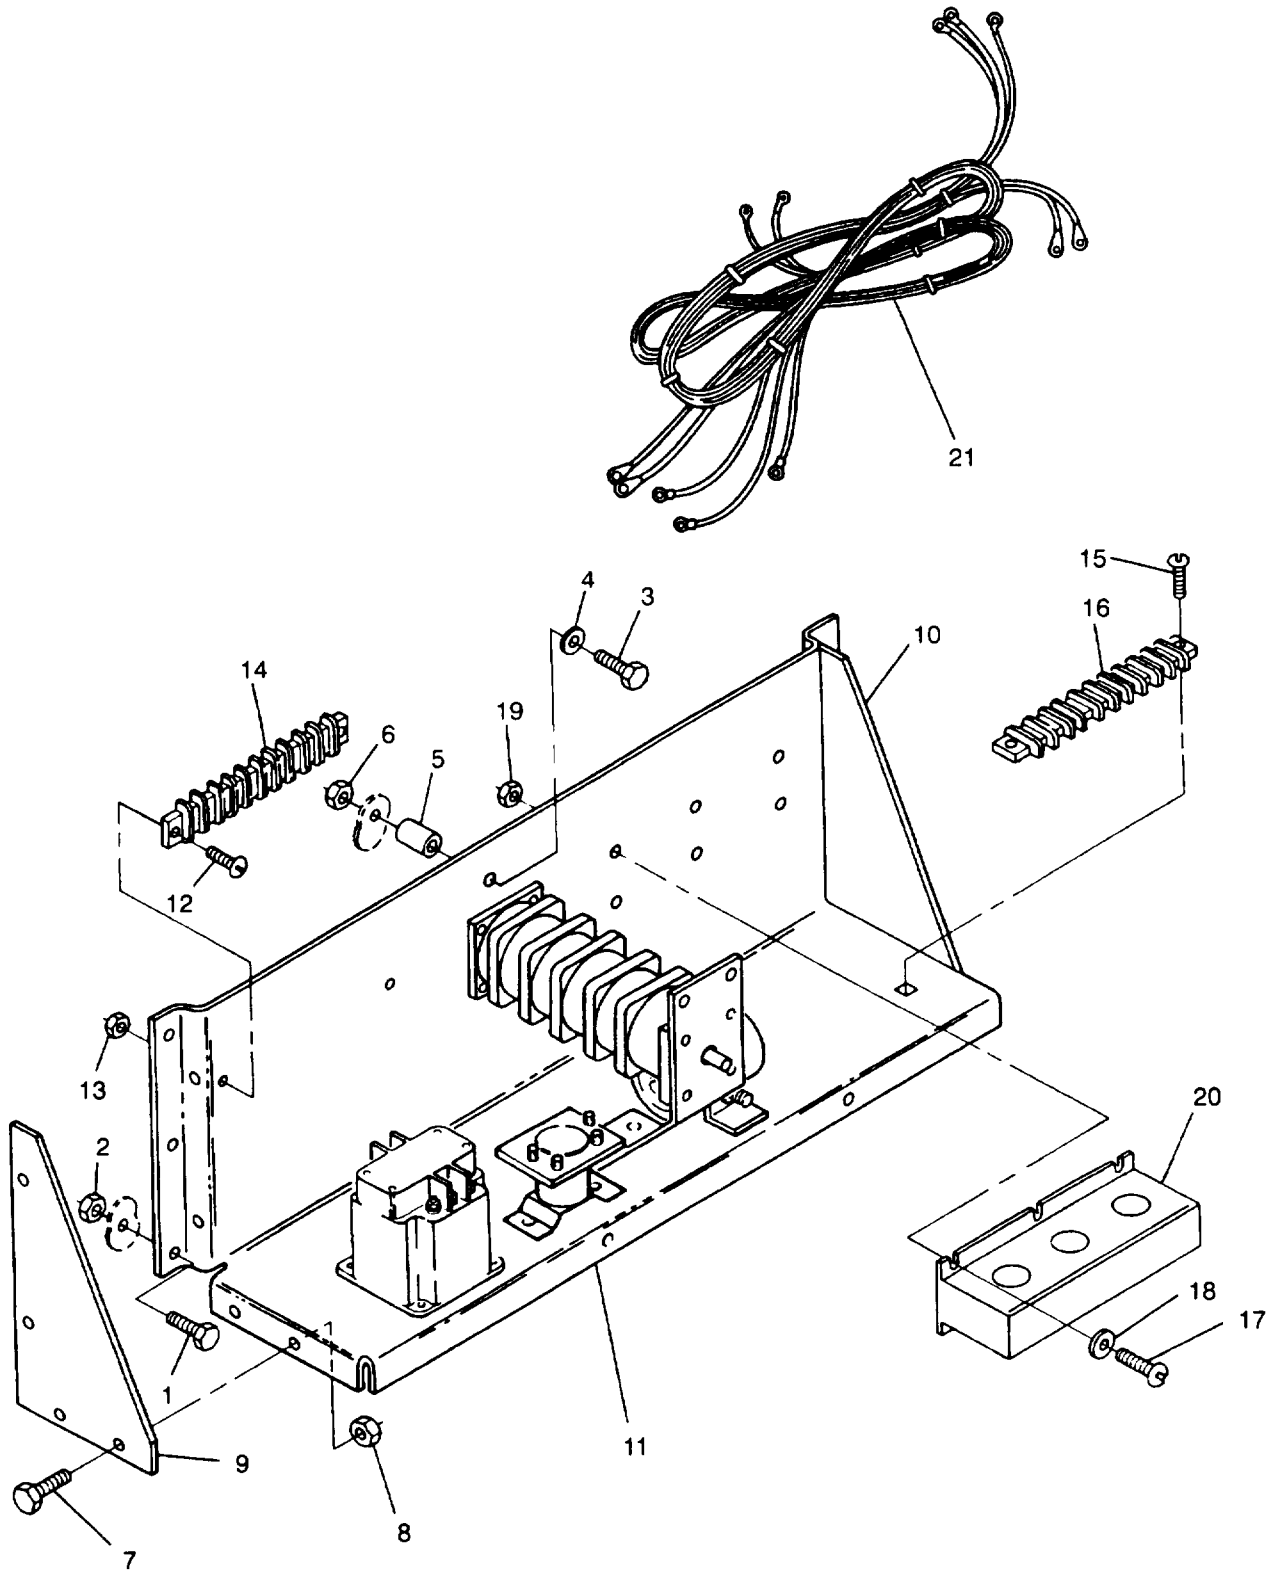

Figure 4-11. Output Box Assembly
- o. Tag and disconnect main generator leads from terminal board (16, Figure 4-11).
- p. Remove bolts (1) and (3), nuts (2) and (6), washer (4), spacer (5), and output box assembly from generator set. The assembly includes the output box tray (11), and side panels (9) and (10).
- q. Remove bolts (7), nuts (8), and side panels (9) and (10) from output box tray.
- a. Install side panels (9 and 10, Figure 4-11) on output box tray (11) with bolts (7) and nuts (8).
- b. Install output box assembly on generator set with bolts (1) and (3), washer (4), spacer (5), and nuts (2) and (6).
- c. Connect main generator electrical leads to terminal board (16) as tagged and remove tags.
- n. Tag and disconnect main generator leads from rear side of terminal board (16, Figure 4-11).
- a. Position output box/engine harness (21, Figure 4-11) in output box assembly and generator set.
- d. Tag and disconnect current transformer (20, Figure 4-11) electrical leads from secondary terminals.
- e. Tag and disconnect main power cables from front side of terminal board (16).
- a. Install current transformer (20, Figure 4-11) with screws (17), washers (18), and nuts (19).
- b. Wrap main power cables around current transformer (20) as noted on removal.
- c. Connect *main* power cables to front side of terminal board (16) and remove tags.
- d. Connect electrical leads to current transformer (20) secondary terminals and remove tags.